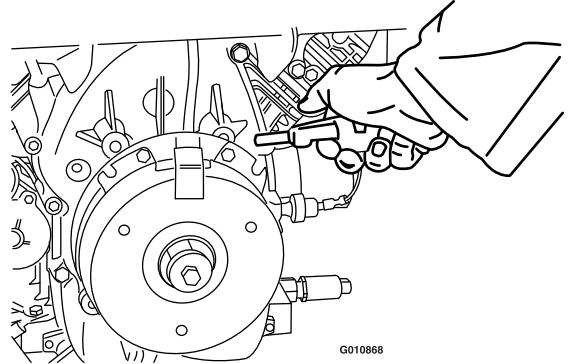

Figure 88
3. Using an air compressor, blow out any debris from under the brake pole and around the brake spacers (Figure 88).